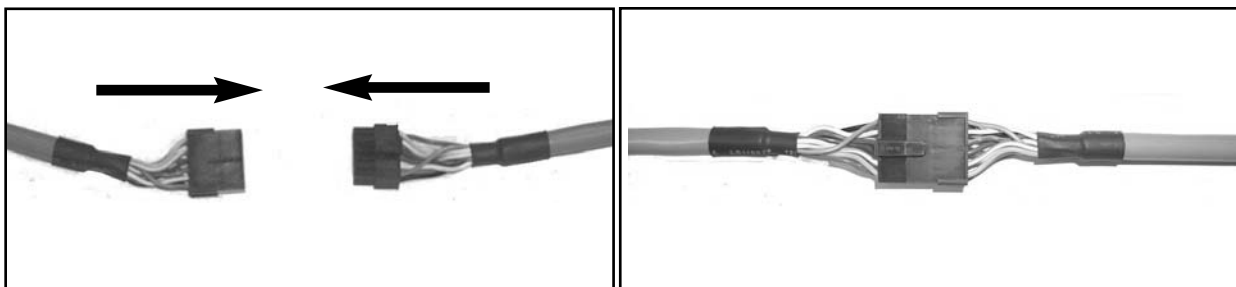
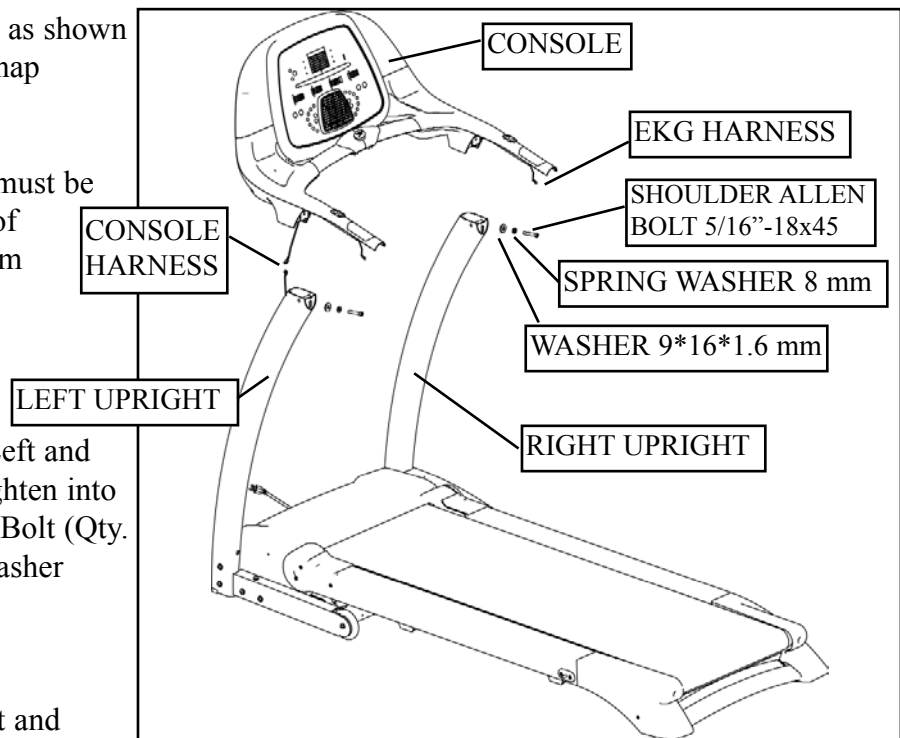

Figure 2: Console Harness Connection
Figure 4: Console Installation
5. Connect the Console Harness together as shown in Figure 4. Wiring harness connectors snap together as shown in Figure 2.
Connect the Console to the Left and Right Uprights by sliding the Console connecting brackets into the end of the Left and Right Uprights as shown in Figure 4. Tighten into place using 5/16"-18x45 Shoulder Allen Bolt (Qty. 2), Spring Washer 8 mm (Qty. 2), and Washer 9*16*1.6 mm (Qty. 2).